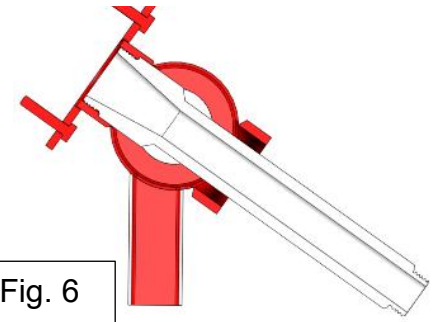

Fig. 6
4. Turn the power switch to the on position. For solid state digital models (D) and computer models (C) models, the temperature will automatically set for 195-200°F. The water will not achieve an active boil.
6. Unthread the Boil Out By-Pass™ drain plug and thread in the Boil Out By-Pass™ extension tube as shown in in Fig. 5. The larger thread end screws into the back of the drain manifold as shown in the cutaway side view in Fig. 6.